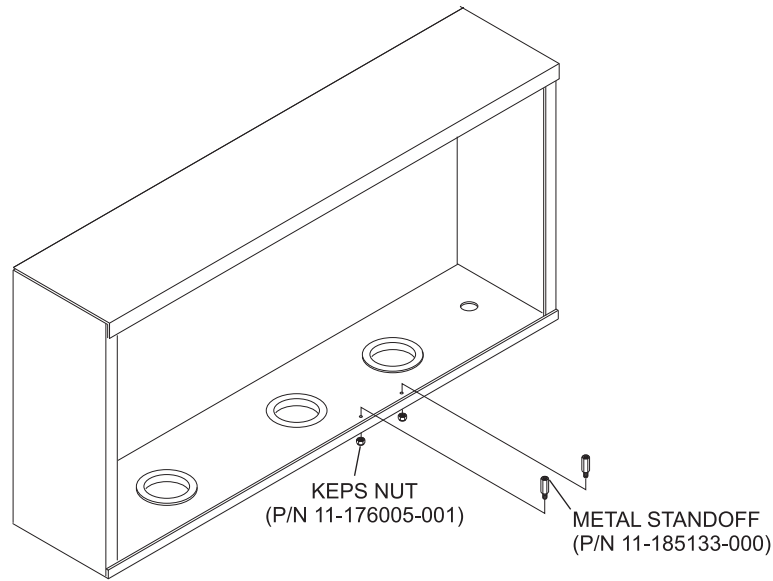

Figure 2
2. Install the two supplied metal standoffs (P/N 11-185133-000) in the holes and secure with keps nuts (P/N 11-176005-001). Refer to *Figure 2*.